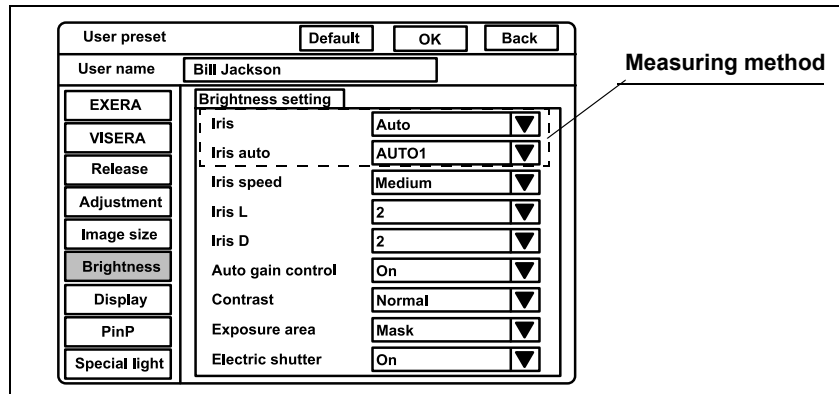

Figure 9.25
1. Click "Brightness" on the system setup menu. The "Brightness setting" appears on the right side of the window (see Figure 9.25).
2. Click "▼" of "Iris" (see Figure 9.25). The measuring methods appear in the pull-down menu.
4. Click "▼" of "Iris auto" (see Figure 9.25). The measuring methods of "Auto" appear in the pull-down menu.